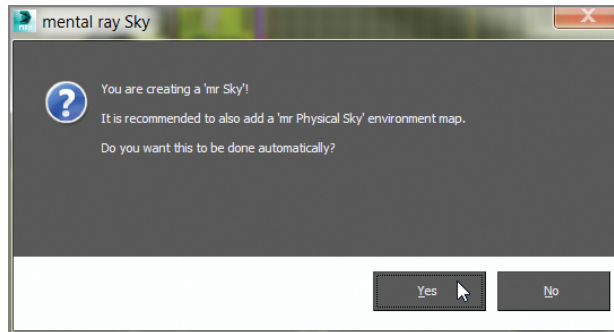

FIGURE 16.29 Add the mr Physical Sky environment map into the scene.
7. When you change the Skylight parameter, a mental ray Sky warning will appear, asking if you want to place an mr Physical Sky environment map in your scene. Click Yes, as shown in Figure 16.29.